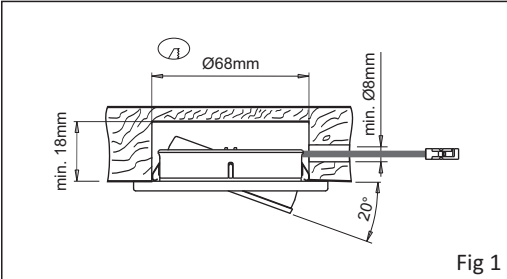

Fig 1
- To flush mount the device, bore a \varnothing 68mm hole \geq 18mm deep on the installation surface and then, if necessary, bore a \varnothing \geq 8mm exit hole for the power supply cable as illustrated in figure 1.